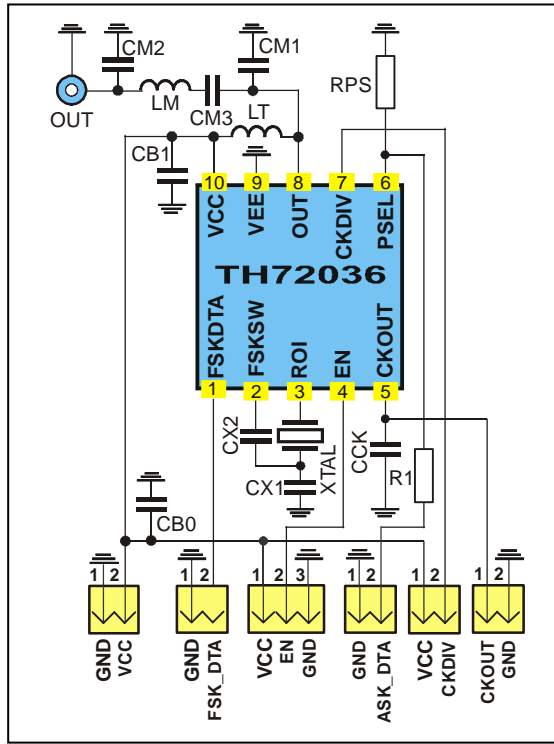

Fig. 6: Test circuit for FSK and ASK with 50 Ω matching network
typical values at $T_A = 23\text{ °C}$ and $V_{CC} = 3\text{ V}$; test circuit shown in Fig. 6, $f_c = 868.3\text{ MHz}$
typical values at $T_A = 23\text{ °C}$ and $V_{CC} = 3\text{ V}$; test circuit shown in Fig. 6
5.1 Test circuit component list to Fig. 6